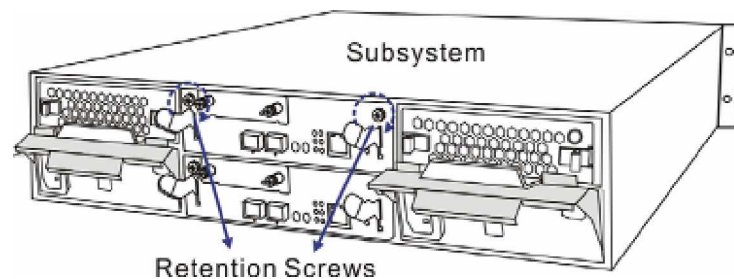

Figure 5-6: Installing the Controller Module Screws
Step 5. Secure the controller module to the subsystem. Install the two (2) screws on the levers to secure the controller module in place. (See *Figure 5-6*)